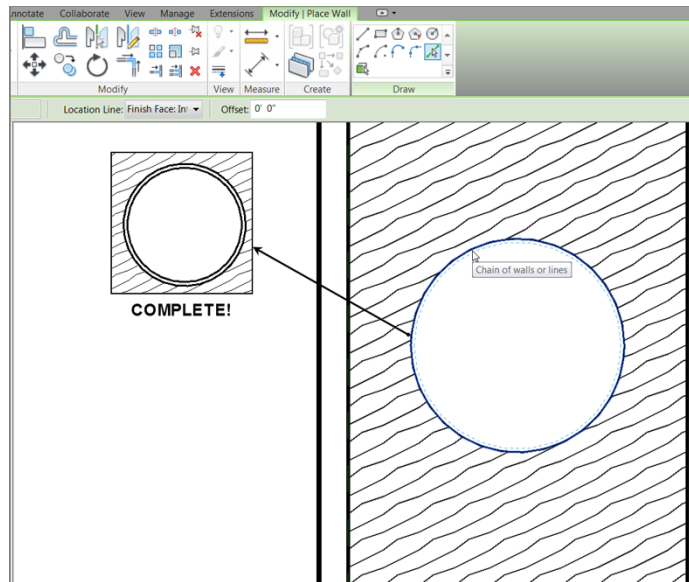

FIGURE 9.29: Creating one cool soffit
3. The entire circle is selected, and the blue alignment line is facing the inside of the hole (see Figure 9.29). When you see this, pick a point to the inside of the hole.